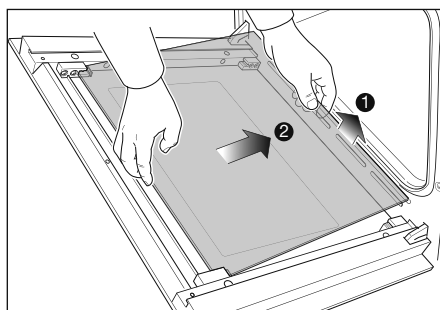

Fig.36c
- Gently lift the bottom edge of the pane (arrow 1 in Fig. 36c) and remove it by pulling it out from the top clamps (arrow 2 in Fig. 36c).